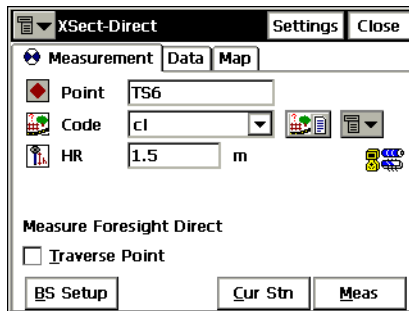

Figure 6-35. XSect-Direct
3. In the *XSect-Direct* screen perform the usual observation work relative to the cross section, as described in “Sideshot Sets” on page 6-24. The only difference lies in the presence of the **Cur Stn** button, which makes the measurement, but unlike the **Meas** button does not store the point (Figure 6-35).